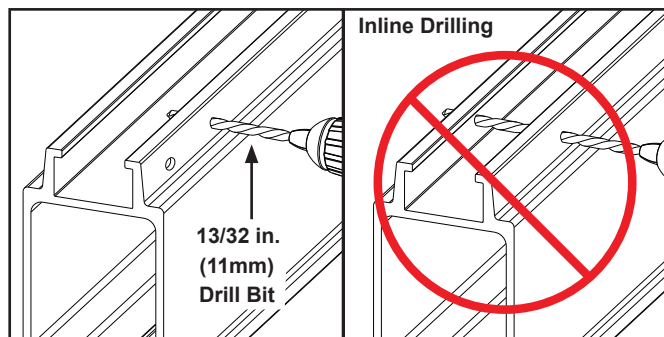

Figure 3-37
- Step 2. Drill two (2) holes using 13/32 in (11 mm) drill bit. Do not attempt to drill holes in-line. See Figure 3-37.